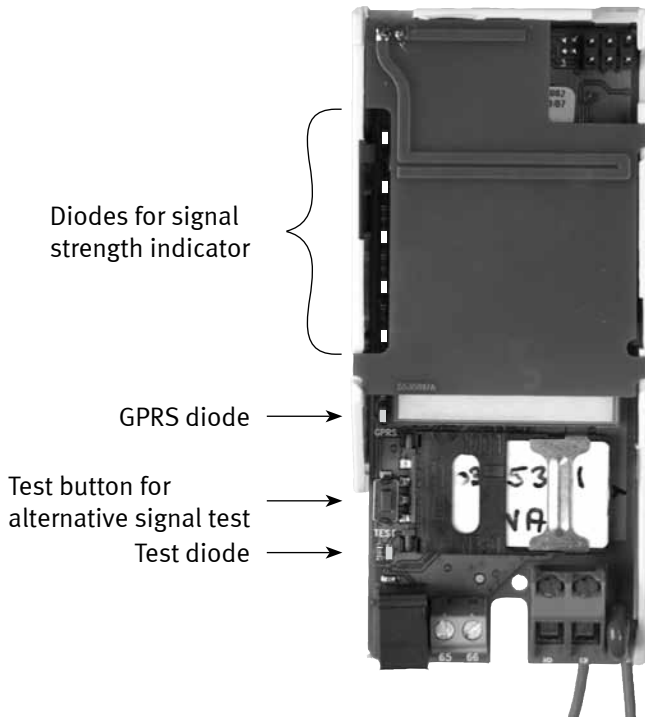

Figure 1
1. Immediately after start-up, all the Signal indicator diodes and the test diode switch on briefly (see fig. 1 on page 7).